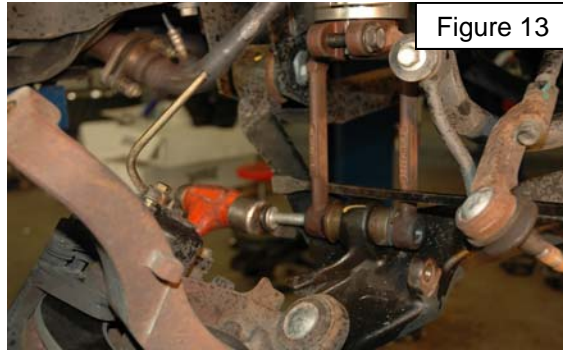

Figure 13
14. With your hand push the strut inwards. **See Figure 11.** Use the alignment tool and from front to back insert it through the front of the strut fork and then into the Lower Control Arm. Using the pry bar insert it from the backside of the front fork and push inward on the back as shown in **Figure 12.** Once the rear hole aligns insert the factory bolt. To align the front of the bolt reverse direction with the pry bar and tap the bolt into place. **See Figure 13.** Install the factory nut but do not tighten at this time.